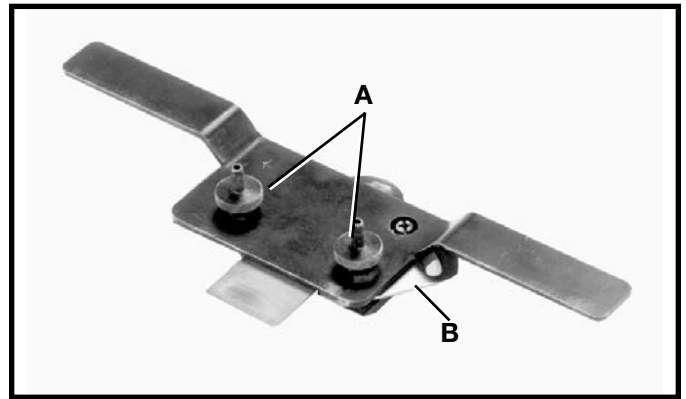
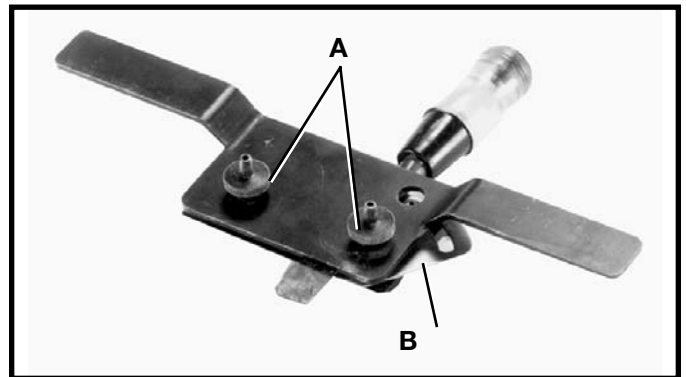
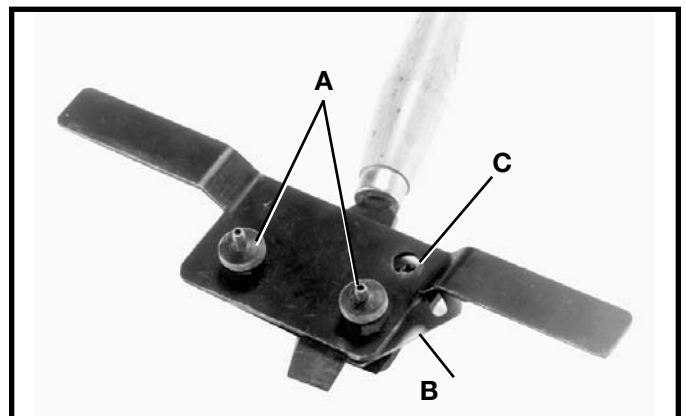

Fig. 25
Fig. 26
Fig. 27
1. Loosen the two clamp knobs (A) Figs. 25, 26 and 27, and insert the tool or chisel between the clamp as shown, making sure the edge of the tool or chisel is against the inside of the protractor gage (B). Fig. 25 illustrates a plane iron; Fig. 26 illustrates a wood chisel; and Fig. 27 illustrates a lathe turning tool inserted between the clamp of the tool and chisel holder. Then tighten the two clamp knobs (A). Adjust the protractor gage (B) so that the cutting edge of the tool to be sharpened is the correct angle for the grinding wheel. Loosen screw (C) Fig. 27, and adjust the protractor gage (B) as shown. Tighten screw (C) after angle is obtained.